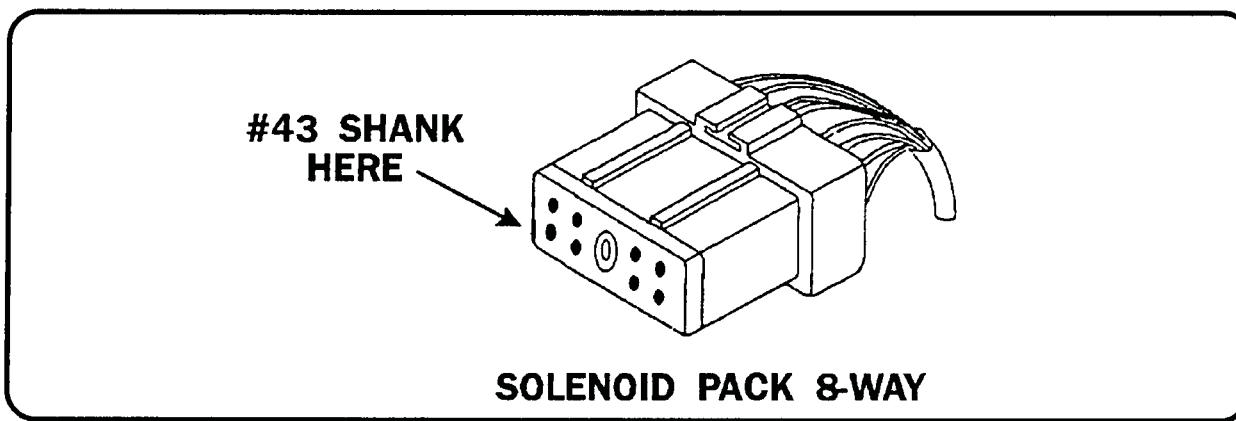

Figure 4
1. To check the 8 way connector, use the shank of a #43 drill bit or a .0890 guage. See figure 4.